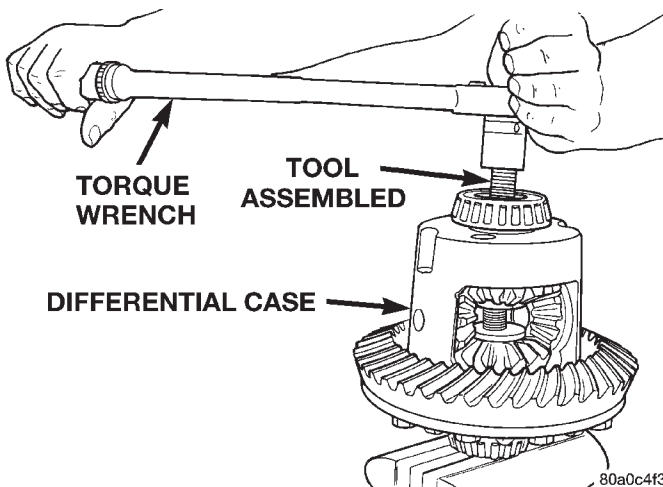

Fig. 47 Tighten Belleville Spring Compressor Tool
(9) Tighten forcing screw tool 122 N·m (90 ft. lbs.) (maximum) to compress Belleville springs in clutch packs (Fig. 47).